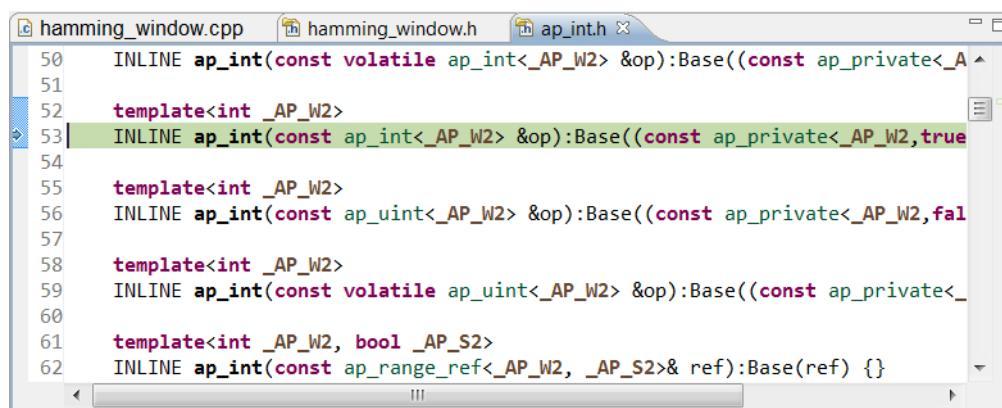

Figure 3-21: Arbitrary Precision Header File
7. Click the **Step Into** button (or the **F5** key) twice to see the view in Figure 3-21.